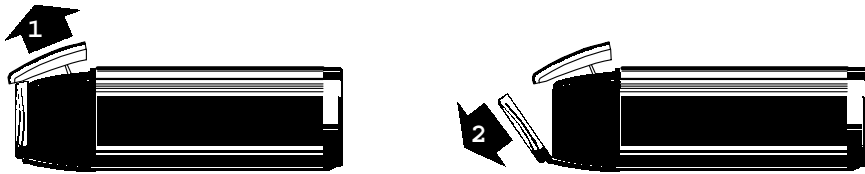

Figure 3
- To open the lid latch, slide hand under the latch and lift. (Figure 3)